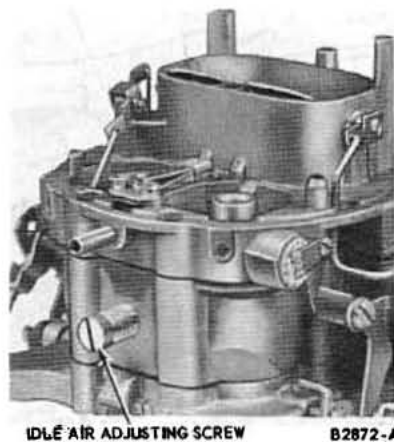

Fig. 20—Idle Air Adjusting Screw—Autolite 4-V (4300)
2. Turn one idle fuel adjusting screw (Fig. 20) clockwise (inward) until the rpm begins to drop (idle lean point). Turn the screw counterclockwise (outward) one-quarter ($\frac{1}{4}$) turn.